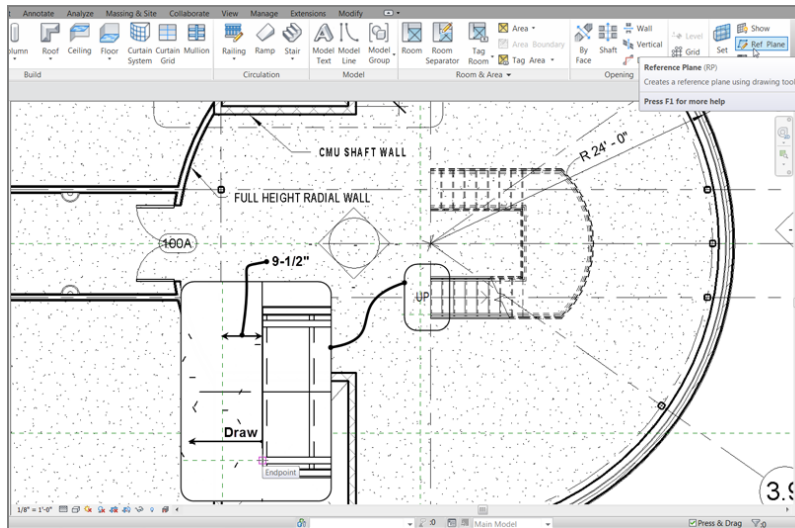

FIGURE 10.14: Add two reference planes as indicated here.
6. Offset a reference plane 9 1/2" (237mm) to the left of the bottom riser (see Figure 10.14).
7. Type 0' in the offset field and draw another reference plane from the center line of the bottom railing to the left about 2'-0" (600mm) (see Figure 10.14).